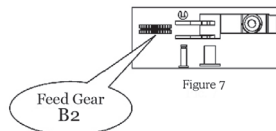

Figure 7
- After you remove the Release Lever you can remove the E-ring and Pin to replace Feed Gear B2. (figure 7)